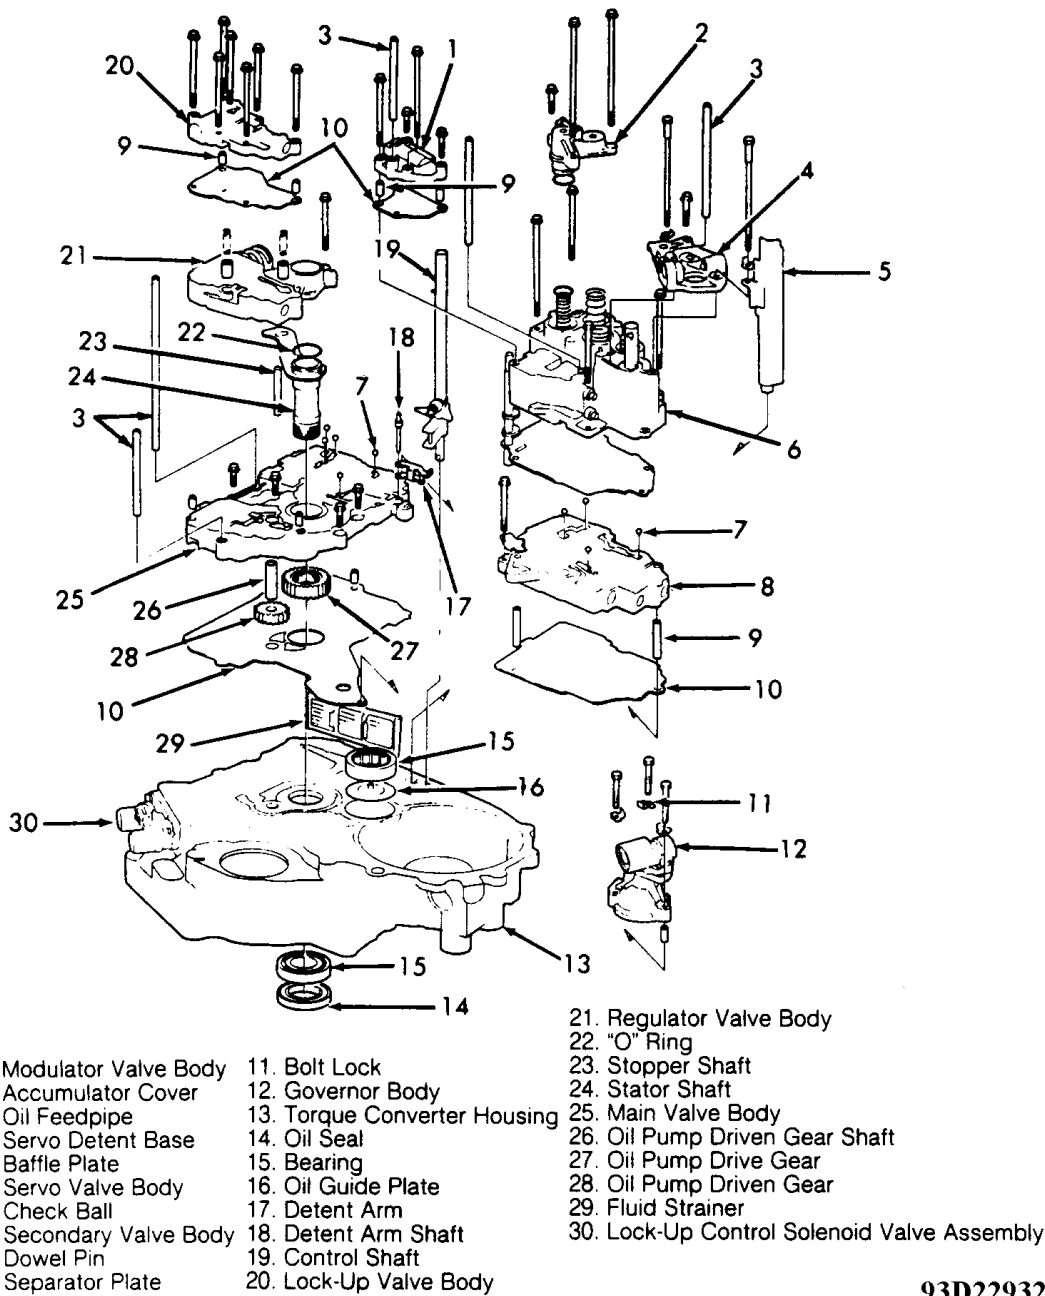

Fig. 10: Exploded View Of Torque Converter Housing & Components
10. Remove oil feedpipes from servo valve body, modulator valve body and main valve body. See **Fig. 10**. Remove bolts and accumulator cover. Remove bolts, servo detent base and baffle plate.
11. Remove bolts, modulator valve body, servo valve body and separator plates. See **Fig. 10** . Remove bolt, secondary valve body and separator plate. DO NOT lose check balls in secondary valve body.
13. Remove detent arm shaft and detent arm from main valve body. Remove bolts and main valve body. DO NOT lose check balls in main valve body. See **Fig. 10** .
14. Remove oil pump driven gear shaft and oil pump gears. See **Fig. 10** . Remove bolts and governor body. Remove main valve body separator plate and dowel pins. Remove fluid strainer. Remove lock-up control solenoid valve assembly (if necessary).